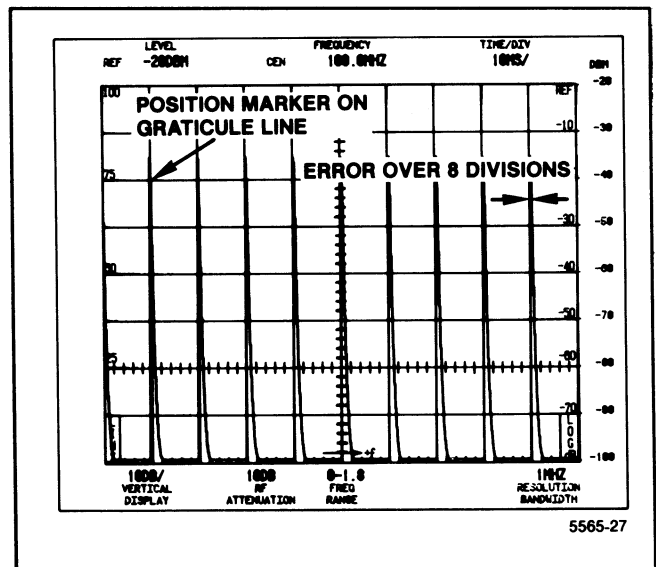

Figure 4-9. Typical display for measuring Time/Div accuracy.
- c. Use the horizontal POSITION control to align a marker on the 1st graticule line (see Figure 4-9), then check the displacement of markers from their respective positions over the center eight divisions. Individual marker displacement must not exceed 5% or 2 minor divisions.